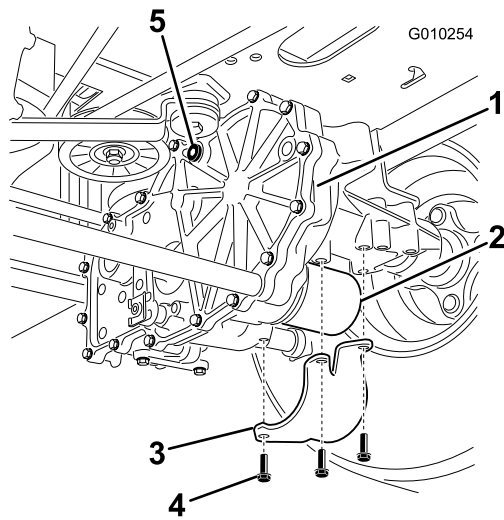

Figure 37
- 4. Locate the filter and filter guards on each transaxle drive system (Figure 37). Remove three screws securing the filter guard and guard.